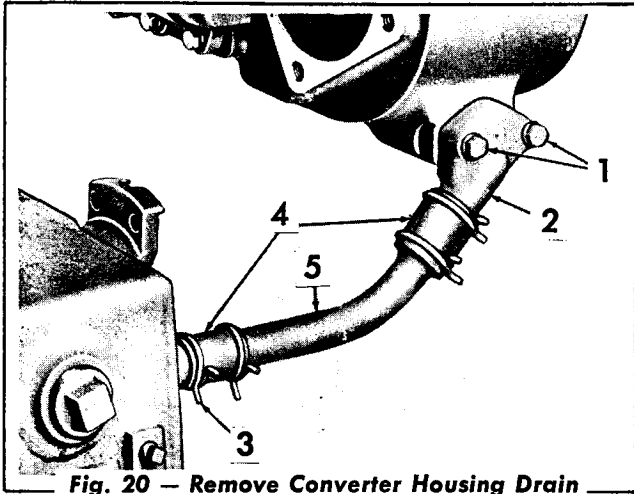

Fig. 20 — Remove Converter Housing Drain Tube Assembly
3. Remove the converter housing drain tube flange (Fig. 20). Remove the hose clamp. Remove, as a unit, the flange, the hoses, and the tube.